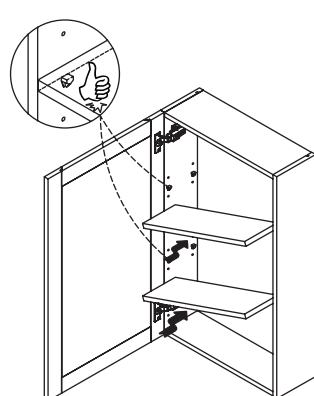

Figure 2
- 4: Insert each shelf support pin (x 8) into the pre-drilled holes in the medicine cabinet, then insert each shelf (x 2). Figure 2.